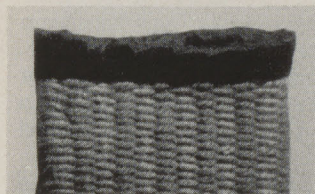

Fig. 13
2. Cloth Binding and Sewn Types—Fig. 13.
Any good quality cloth of appropriate color can be sewn over the folded warp threads as indicated in figure 13. Still another method is to oversew the warp ends with yarn of the same kind and color as used in the weft.